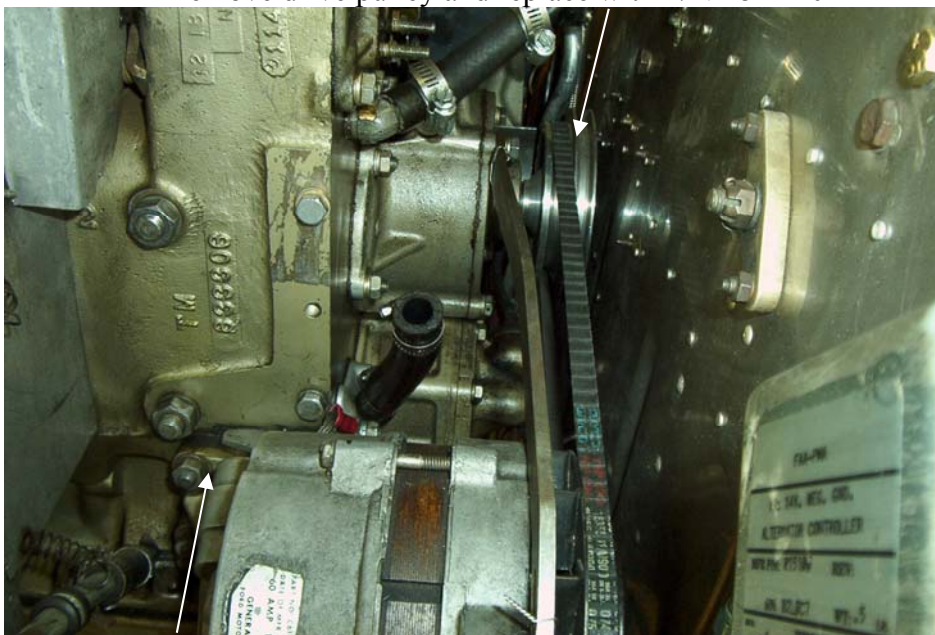

Figure 1
4. Loosen the supercharger idler and remove the supercharger belt and loosen the alternator and remove the alternator belt. Remove the alternator and remove the 4 nuts and washers securing the alternator support to the engine remove and modify the support per FAT Inc. drawing P/N 182LR0116, or P/N 182LR0017, or P/N 182LR0018 as appropriate. (figure 1)
6. Remove the alternator/supercharger drive pulley from the rear of the engine and replace it with the new double pulley, P/N182LR014-2 or 182U014-2, using the existing hardware. Tighten to 37.5 to 41.2 ft. lbs. (Figure 1)
7. Reinstall the alternator belt, FAT P/N 182355, and tighten the belt by rotating the alternator. (Figure 1)
1. After step 6 remove the alternator and remove the 4 nuts and washers securing the alternator support to the engine (figure 1), remove and modify the support per FAT Inc. drawing P/N 182LR0116, or P/N 182LR0017, or P/N 182LR0018 as appropriate. Reinstall the modified alternator support and alternator.
5. Remove the alternator/supercharger drive pulley from the rear of the engine and replace it with the new double pulley, P/N182LR014-3 or 182U014-3, using the existing hardware. Tighten to 37.5 to 41.2 ft. lbs. (Figure 1)
6. Reinstall the alternator belt, FAT P/N 182355, and tighten the belt by rotating the alternator. (Figure 1)